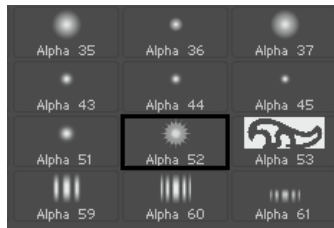

Figure 3-104 Alpha 52 chosen in the flyout
4. Choose the Current Alpha button from the left shelf; a flyout containing different alpha images is displayed. Choose the **Alpha 52** alpha image from this flyout, refer to Figure 3-104. This alpha will help you to create a knob for the door.